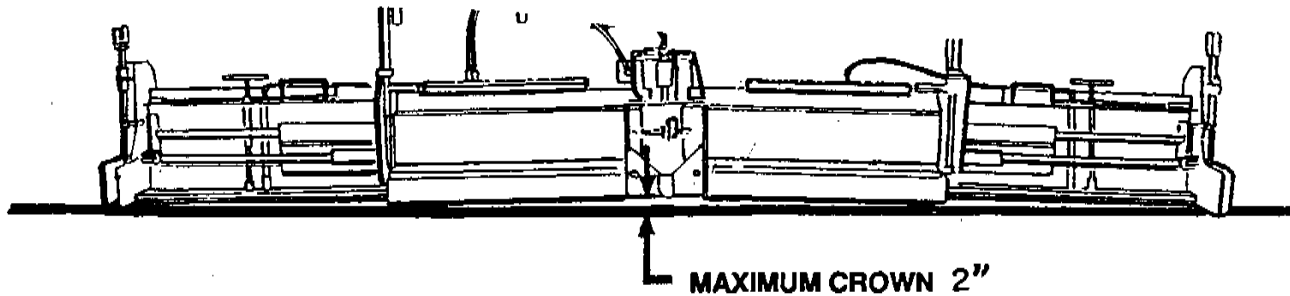

FIGURE 24
10. Set crown control. The screed plate is a one-piece unit which is actually bent to provide the required crown setting. See figures 24 and 25.
11. To get exact crown or valley measure the distance between a flat level surface to the center bottom portion of screed. See figure 24. Make adjustments with crown and valley control.